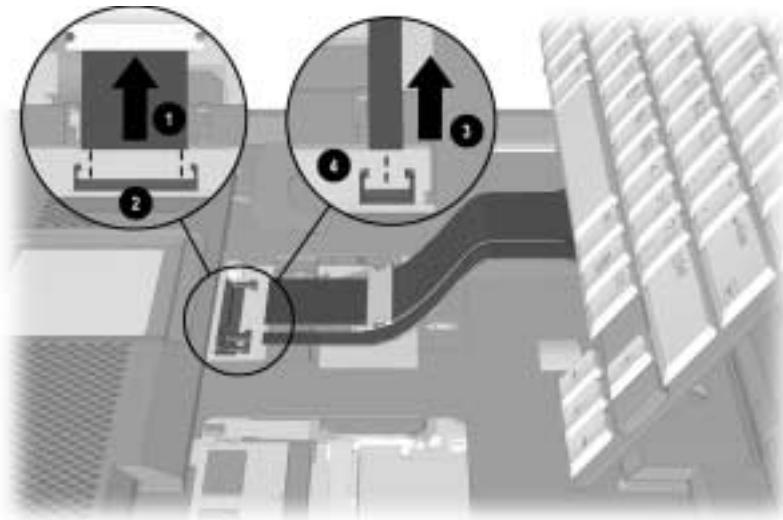

Figure 5-9. Releasing and Disconnecting the Keyboard Cables
8. Release the ZIF (Zero Insertion Force) connector that connects the keyboard cable **1** (Figure 5-9).